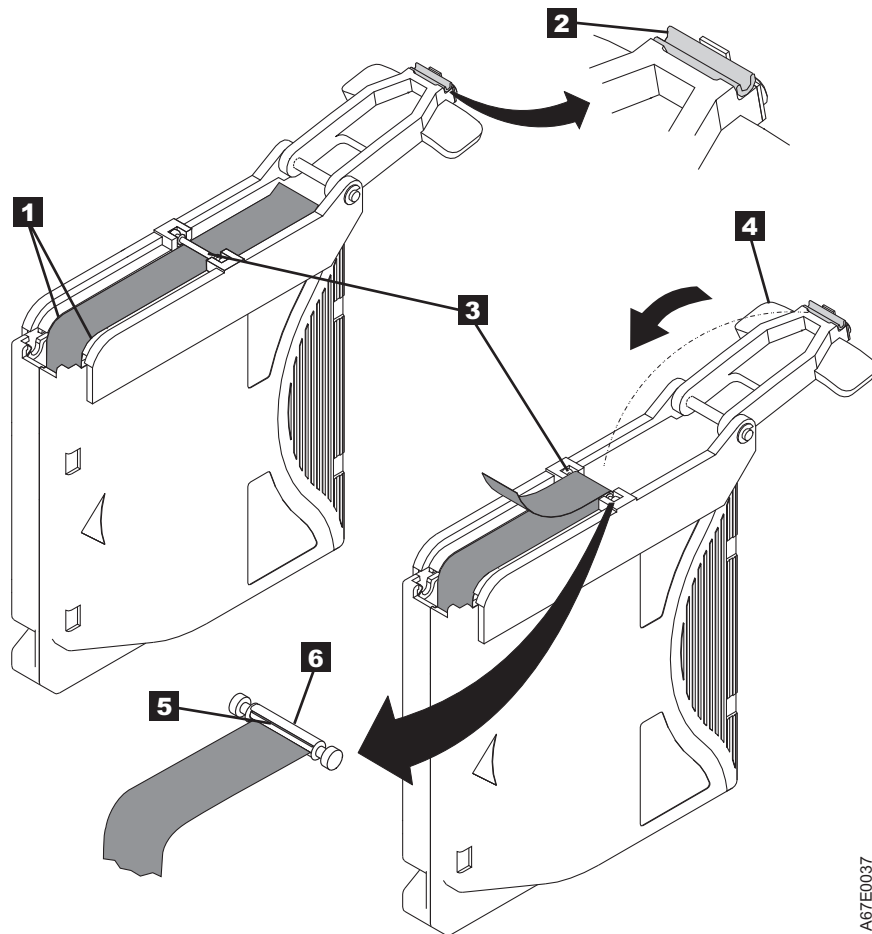

Figure 25. Attaching the leader pin to the tape
7. Position the tape in the alignment groove of the leader pin attach tool (see **1** in Figure 25 on page 59).
8. Place a new C-clip into the retention groove **2** (Figure 25 on page 59) on the leader pin attachment tool and make sure that the clip's open side faces up.
9. Place the leader pin (from step 6) into the cavity **3** (Figure 25 on page 59) of the leader pin attach tool.
10. Fold the tape over the leader pin and hold it with your fingers (see Figure 25).